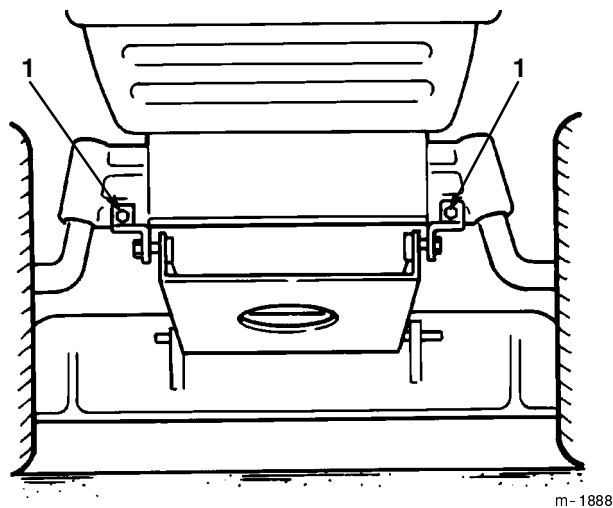

Figure 36
7. Remove the bolts and locknuts and pull the two mower pivot mount brackets down from the front axle (Fig. 36).